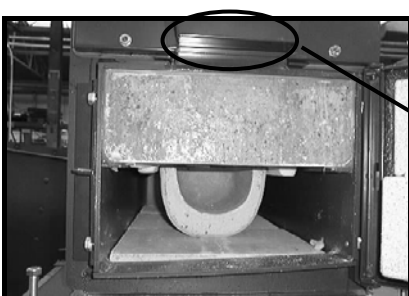

Fig. 3,6
13. Install the air box, the ash-pit door and the panels in the firebox. Remember to apply silicone to the air box. See Fig. 3,6.